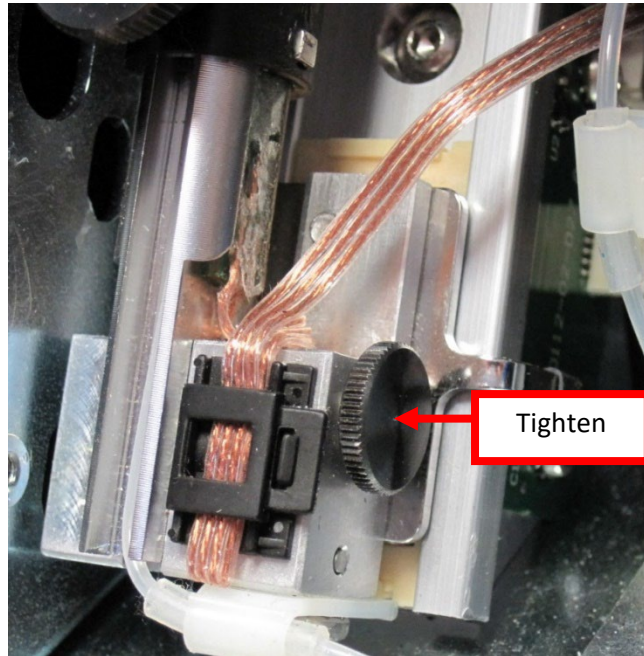

Figure 33
- 8.10. Retighten the long **black** Thumbscrew **on the side** of the Piercing System. Tighten the Thumbscrew completely. Verify the Needle Piston Assembly is locked in position and cannot pivot outwards. Figure 33